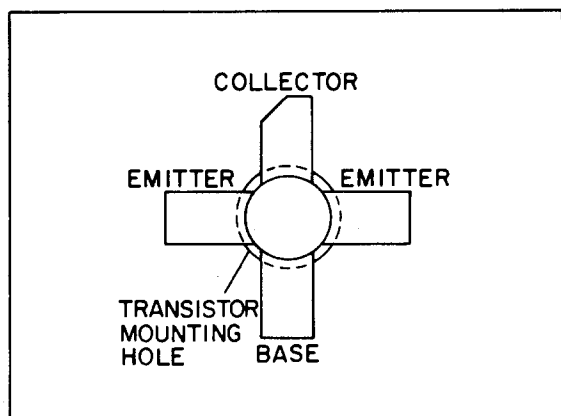

Figure 8 - Lead Identification
6. Make sure that the transistor leads are formed as shown in Figure 8 so that the leads can be soldered to the printed circuit pattern, starting from the inner edge of the mounting hole.